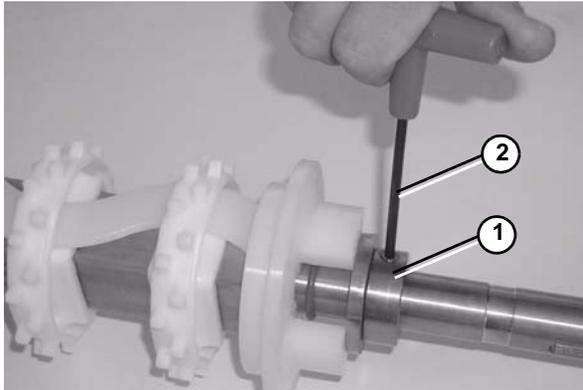

Figure 74
- Slide the retaining ring (**Figure 74, item 1**) onto the drive spindle. Leave a slight gap between ring and washer to allow flanged puck to spin freely.
- Tighten the retainer ring fastener using a hex wrench (**Figure 74, item 2**).